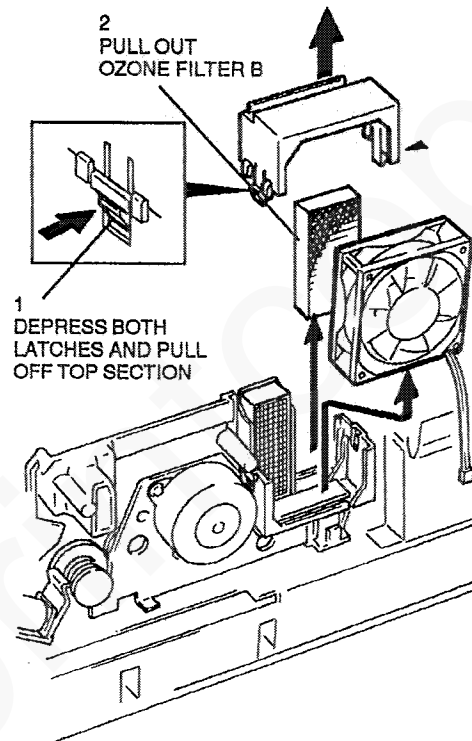

Figure 1. Ozone filter B removal
3. (Figure 1) Remove ozone filter B.